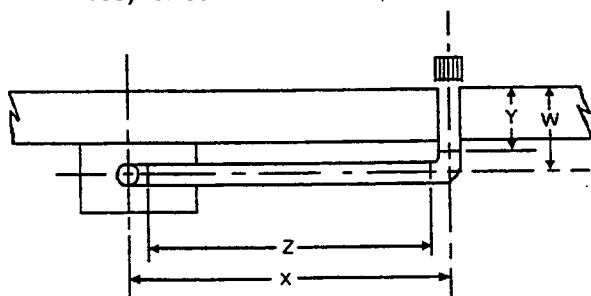

Fig.17
- 5.5.23** Measure carefully the distance between the centre of the flue bend on the boiler to the centre of the hole through the wall (dimension X fig. 17).
- 5.5.30 Ensure that the flue pipe runs parallel to the wall then carefully measure the distance from the outside face of the wall to the centre of the extra bend (dimension W Fig. 17).